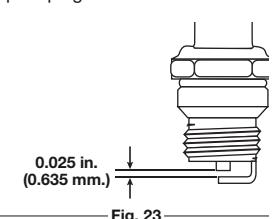

Fig. 23
3. Replace a cracked, fouled or dirty spark plug. Set the air gap at **0.025 in. (0.635 mm)** using a feeler gauge (Fig. 23).